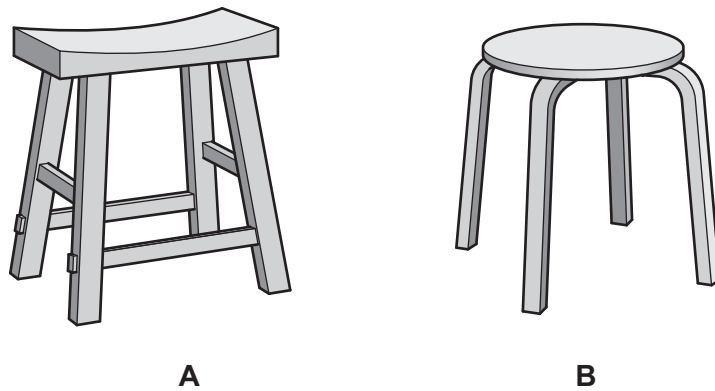

Fig. 10.1
- 10 Fig. 10.1 shows two hardwood stools, **A** and **B**.